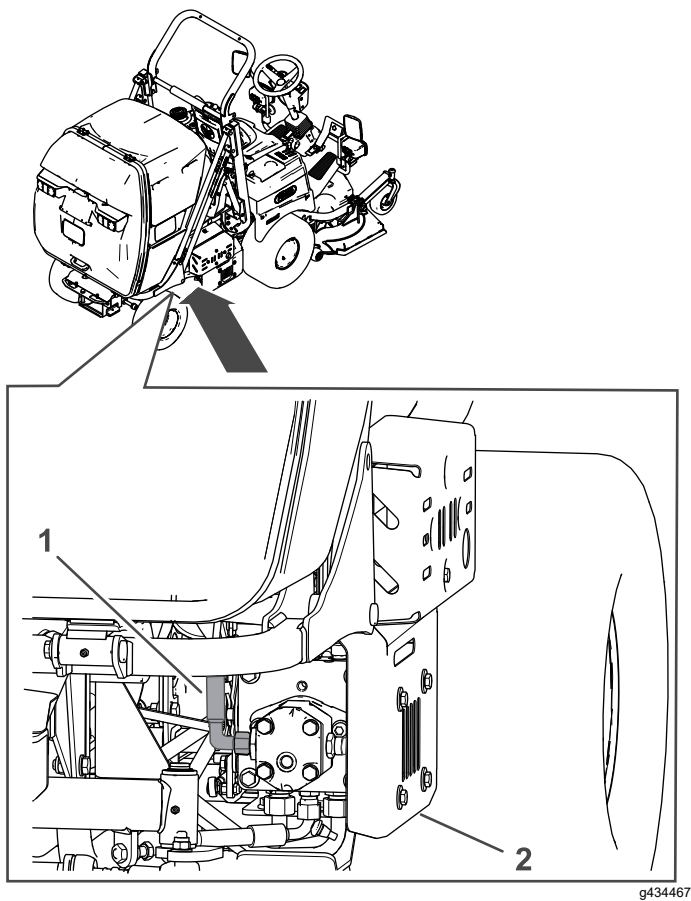

Figure 84
5. To empty the hydraulic tank, remove the cover and loosen the hydraulic hose on the side of the hydraulic pump. (Figure 84).